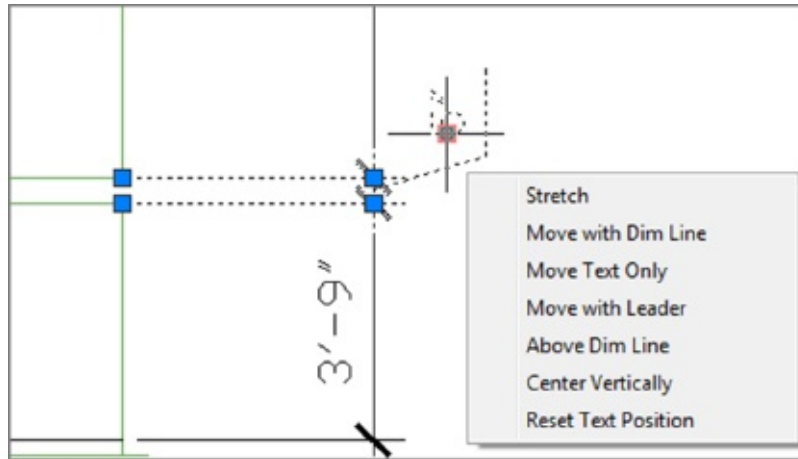

FIGURE 11.20 The multifunction grip menu for a dimension text
3. Hover over the grip nearest the dimension text. The multifunction grip menu appears (see Figure 11.20).
4. Select the option that you want to use to move the text. For example, to move the 5" dimension text in Figure 11.20, select Move Text Only (which removes the leader, as explained later) or Move With Leader.
As you saw in Figure 11.20, you have a number of options for moving dimension text. The multifunction grip options are self-explanatory, but you might want to experiment with them to see how each one behaves.